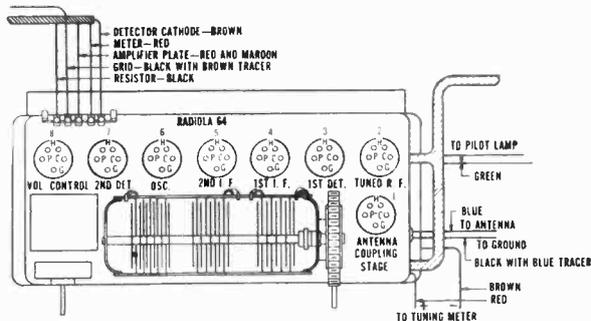

Fig. 1—Top Front View of Radiola
2. **RE-ARRANGING RADIOTRONS**—Socket No. 2, Fig. 1, the tuned radio frequency stage, is the most critical for the selection of Radiotrons, and socket No. 7, the second detector, is next in importance. In socket No. 2 place the Radiotron which gives loudest reproduction on distant stations and which does not go into oscillation throughout the entire tuning range of the instrument. Place in socket No. 7 the Radiotron which will best handle large volume without distortion.
- B. GRID TESTS**—Using the "C" position of the Radio Set Tester, or touching the C and G socket contacts with the test leads of the separate voltmeter, test the "C" voltage in all sockets except the oscillator, No. 6, Fig. 1. In addition to the faults listed below a defective power unit will cause variation from the normal readings.